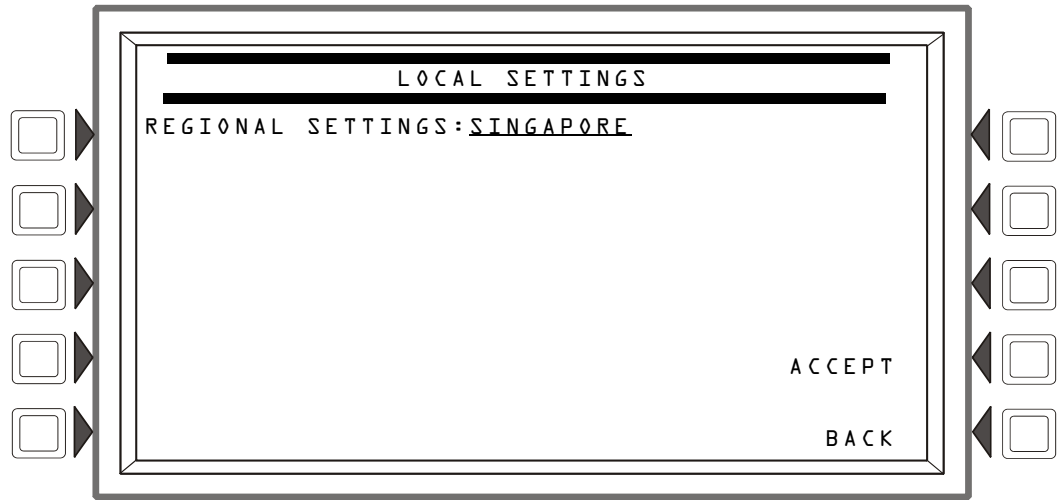

Figure E.1 Regional Settings Screen
The panel programming REGIONAL SETTINGS choices, available through the Panel Settings (2) screen (refer to page 73) are described below. The REGIONAL SETTINGS screen (Refer to Figure E.1) allows scrolling through the available choices by pressing the soft key. Choices are CHICAGO, SINGAPORE, AUSTRALIA, CHINA, CANADA or DEFAULT (no special regional settings).